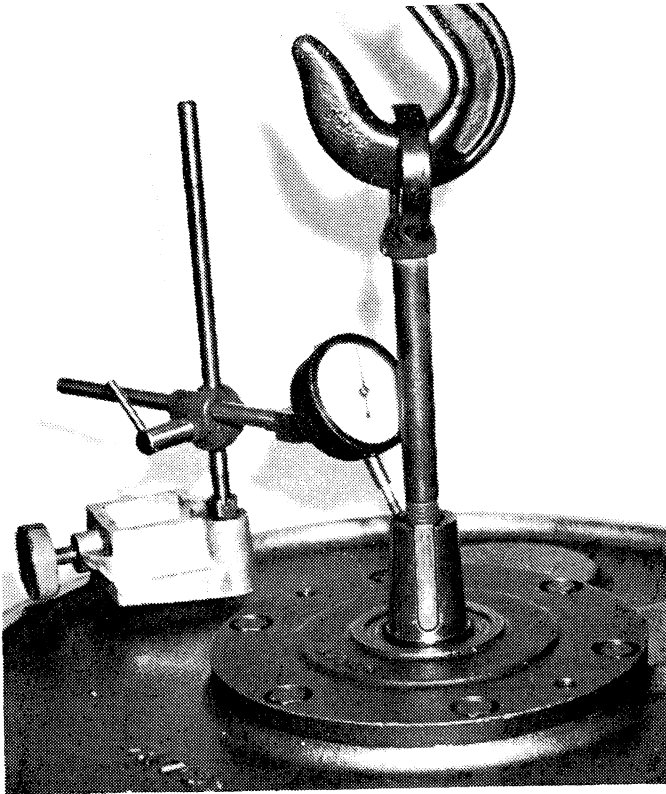

Figure 9-9. Applying pulling force while dial indicating end play of input shaft.
6. Use a fish scale and hoist to apply 60-100 lbs. forward (upward) pressure on the input shaft. See Figure 9-9.